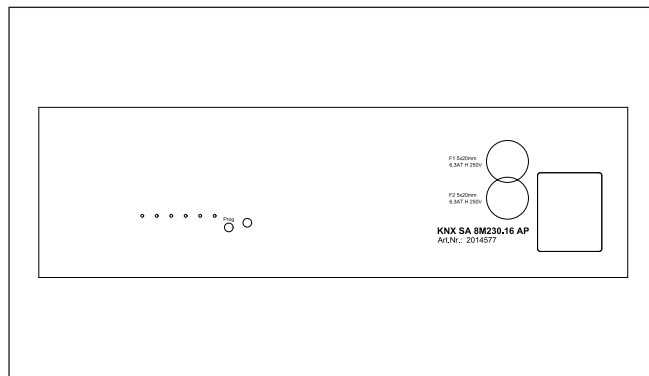

Fig. 2 View of the keypad
There is a Prog button for programming and a display LED both in the app and on the keypad (see Fig. 2).
- Press the programming button in the app or on the device (Fig. 2) to put the device into programming mode. The red LED lights up when programming mode is active. Programming is performed using the ETS on the PC. This software ends the programming mode automatically. The red LED goes out.